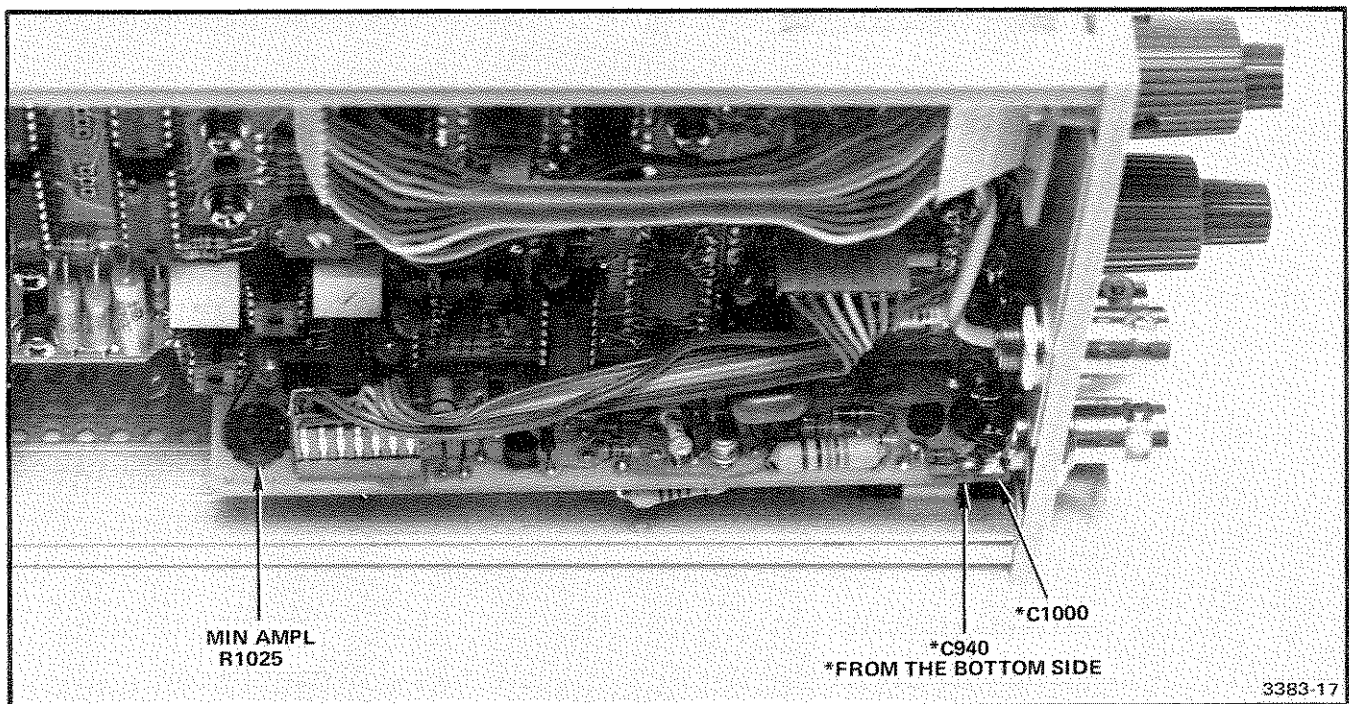

Fig. 4-7. Adjustment locations for the A3 Fast Rise Output circuit board.
d. Adjust—Min Ampl (R1025) for positive-going and negative-going FAST RISE OUTPUTS signal amplitude of  $\geq 50$  mV and  $\leq 100$  mV. Refer to Fig. 4-7.